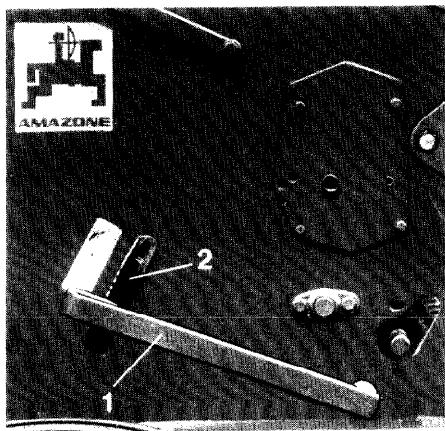

Fig. 1
- Bring bottom flap setting lever (Fig. 1/1) at the resting plate (Fig. 1/2) into position “1”.